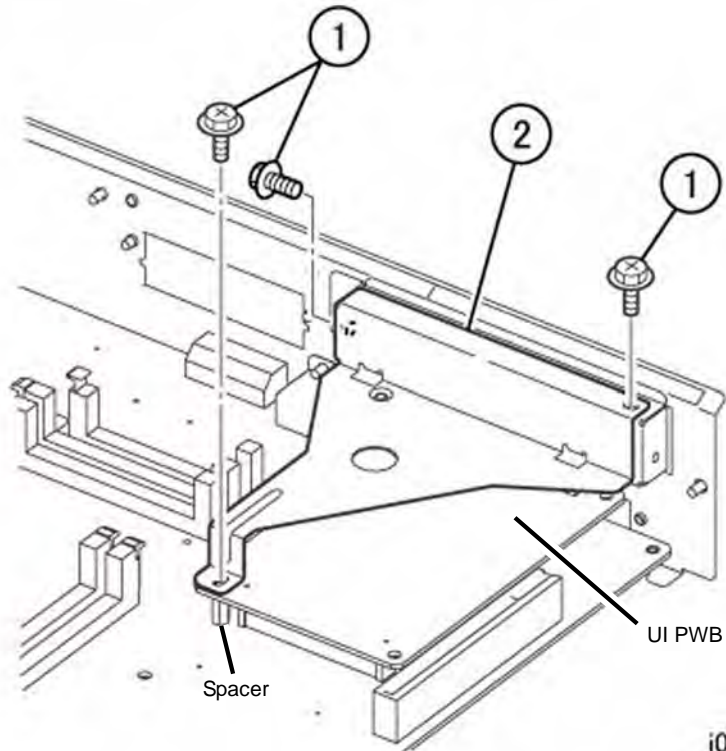

Figure 1 Removing the Bracket
2. Remove the Bracket (Figure 1).